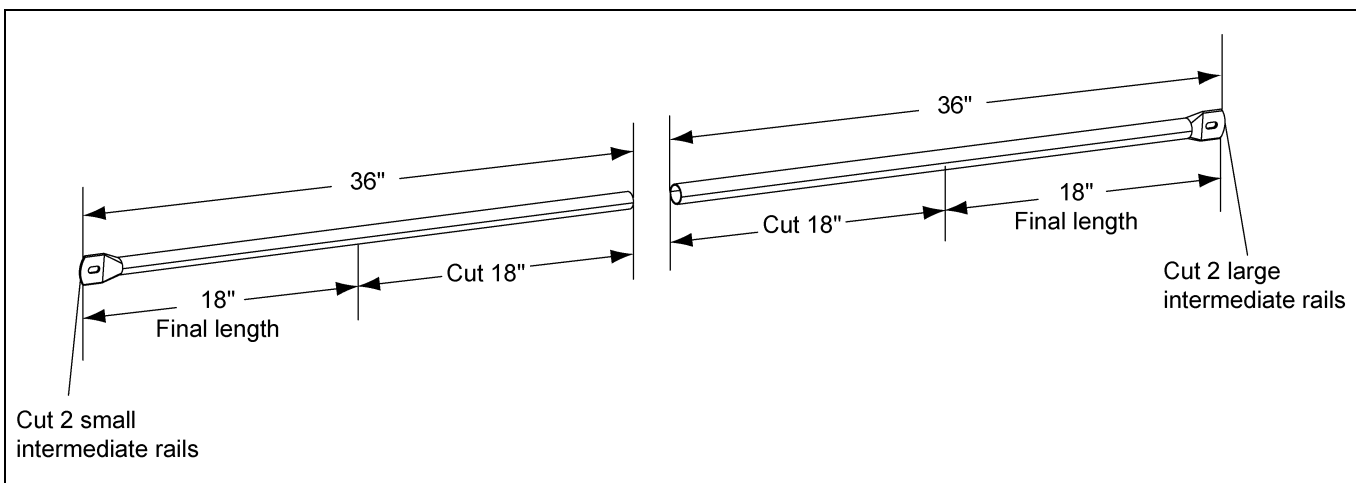

Figure 6N
4. Assemble the intermediate handrail posts by sliding the small intermediate handrail into the large intermediate handrail to create a telescoping handrail that can be adjusted to the correct length between the posts. Two (2) of the small intermediate handrails and two (2) of the large intermediate handrails will need to be cut to fit. The starting length of each rail is 36". Cut 18" off the end of each rail so the final length of each rail is 18". (See Figure 6N.)